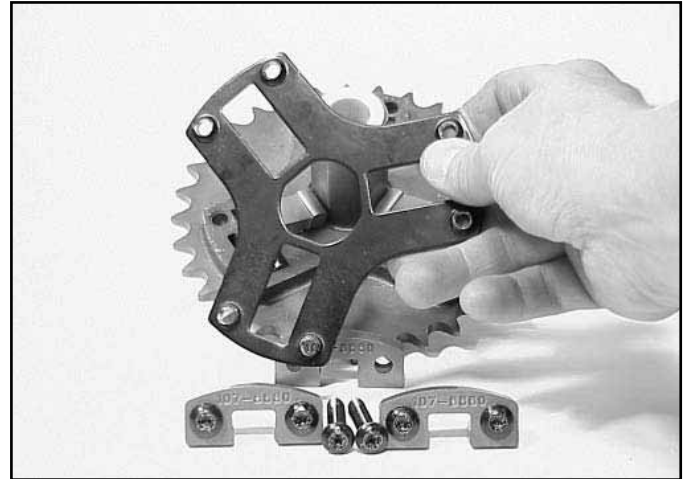

Fig 187
9. Remove the retainer plate off of the gear hub (Fig. 187).